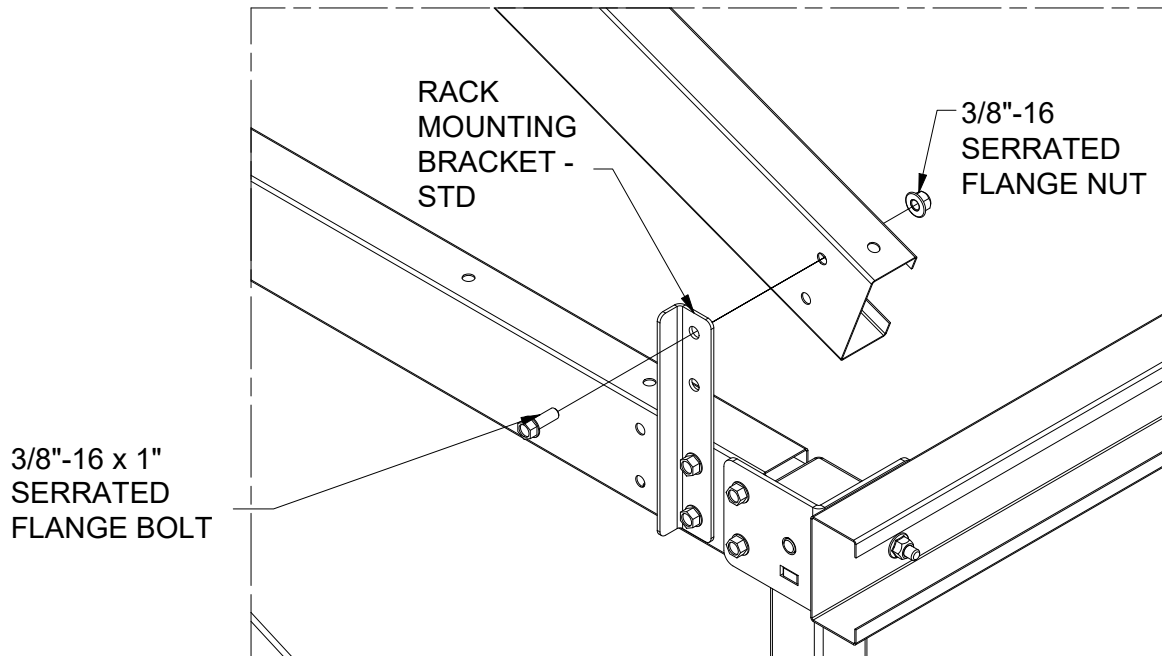
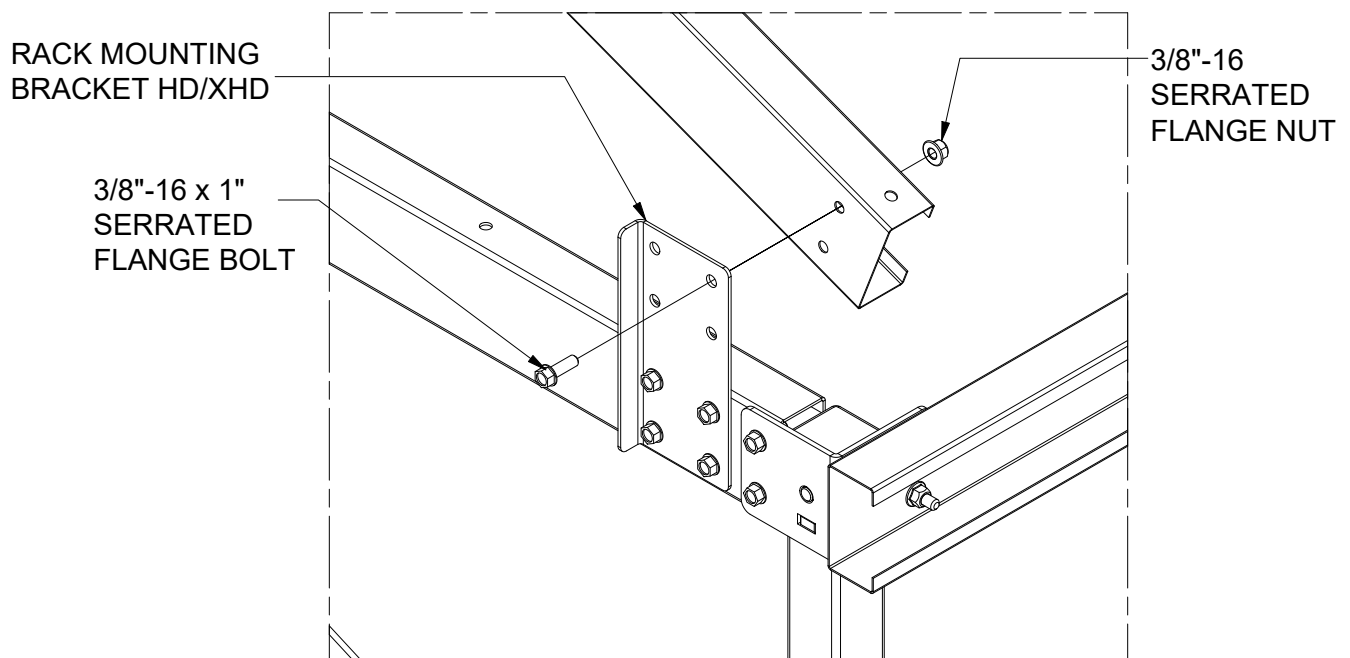

Figure 10: Strong Back to Rack Mounting Bracket - STD
Figure 11: Strong Back to Rack Mounting Bracket – HD/XHD
3. Place the Strongback in line with the Chassis Stud and bolt the Strong Back to the upper hole of the Rack Mounting Bracket. Refer to Figure 10 and Figure 11 below.